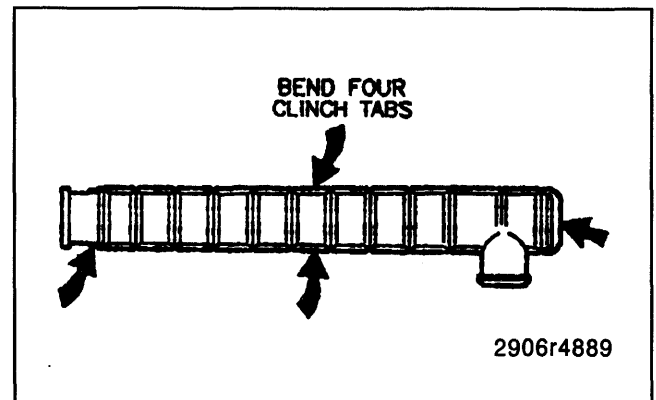

Figure 26—Seating the Tank to the Radiator Tank
9. Position the tank and gasket to the header. Clamp it in place and secure it by bending four clinch tabs as shown in figure 26.